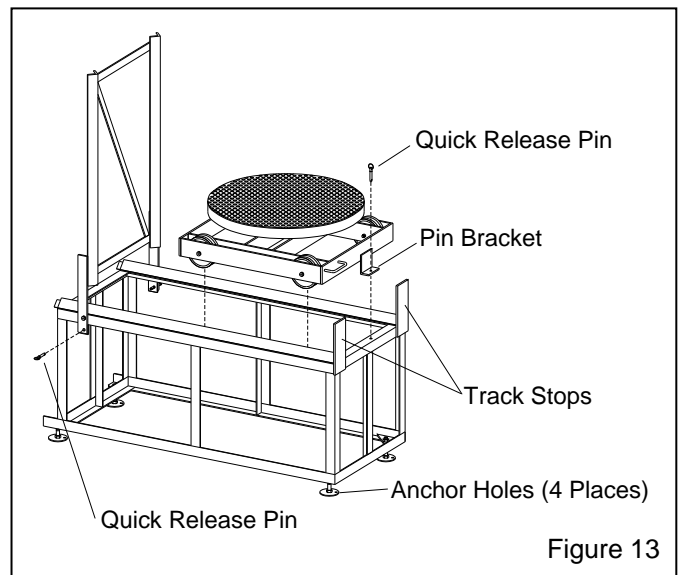

Figure 13
3.4.4.4 The quick release pin holds the hinge track when in the raised position, as shown in Figure 13.
3.4.5 Turntable Work Cart and Hinge Track Operations, refer to Figure 13